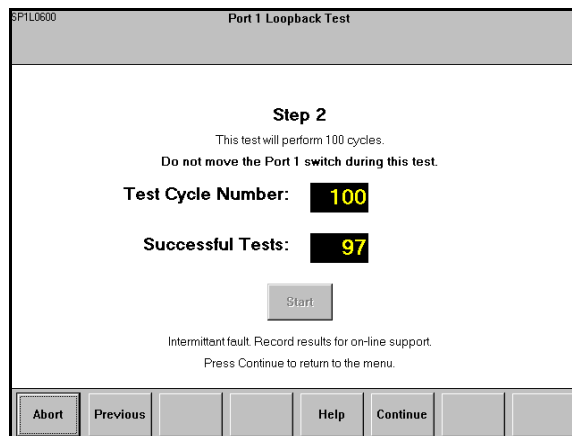

Figure 8
- If a fault is present, the operator will see a screen similar to that in Figure 8.